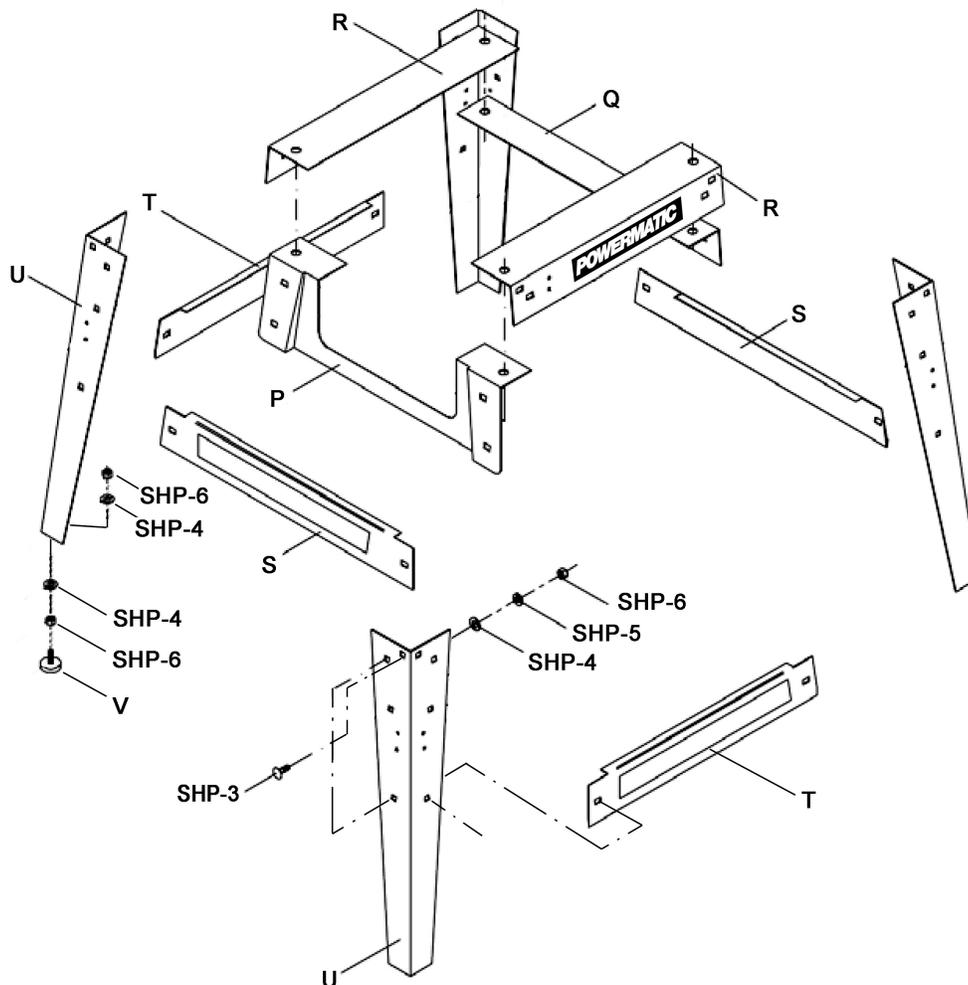

Figure 8
1. Assemble stand, using Figure 8 as a guide. Use the provided carriage bolts, flat washers lock washers, and hex nuts (SHP-3/4/5/6).